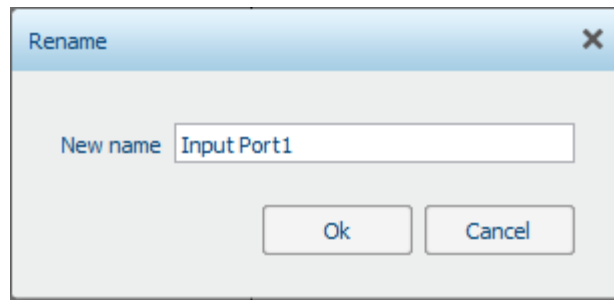

Figure 26: Input renaming window
- Once this is done the window as above in figure 26 will appear